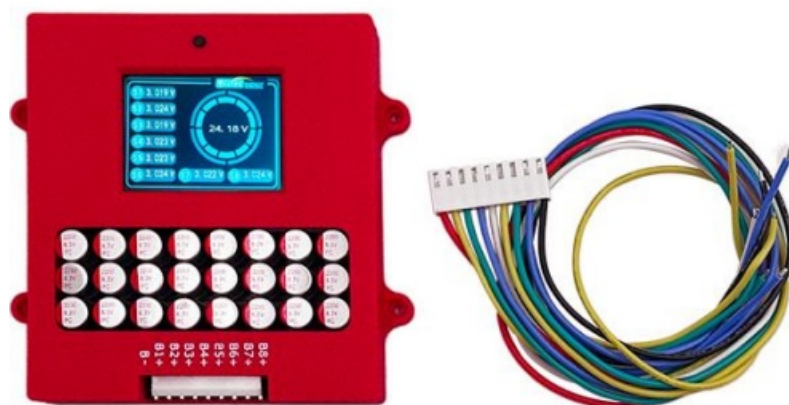

Figure 1 Product Appearance
- The circuit board is sprayed with three-proof paint, which has excellent insulation, moisture-proof, leakage-proof, shock-proof, dust-proof, corrosion-proof, anti-aging, corona-resistant, and other properties, which can effectively protect the circuit and improve the safety and reliability of the product. The actual object is shown in Figure 1.